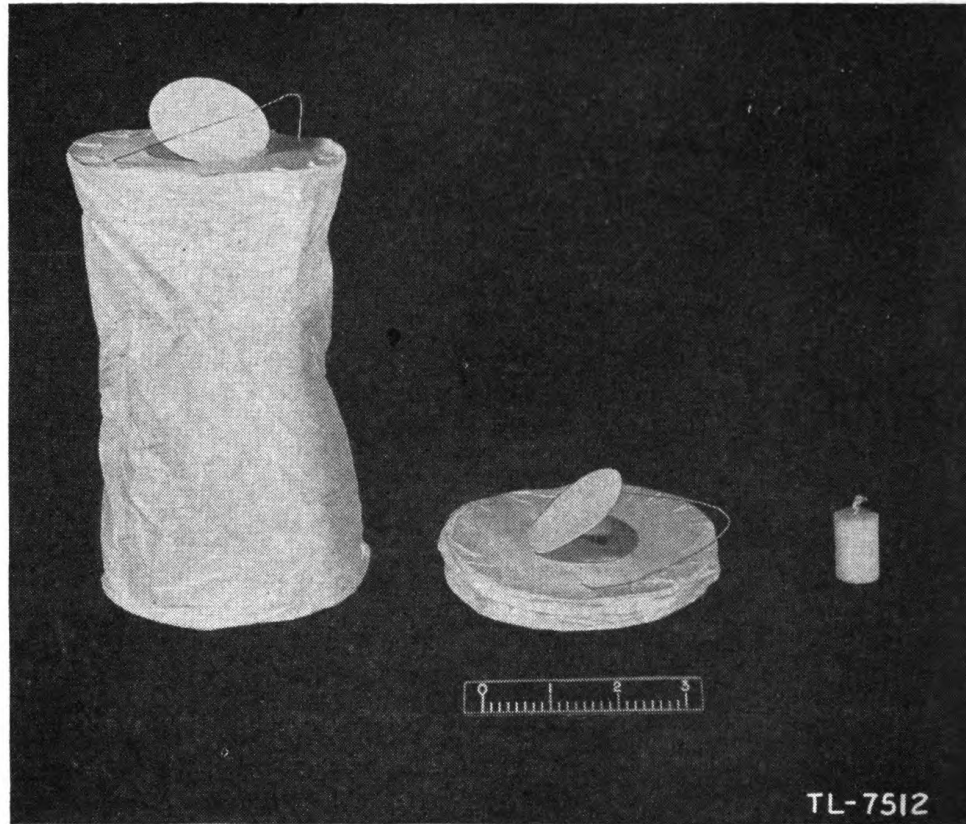

FIGURE 13. *Candle lantern light unit.*
(2) *Candle lantern set.* The candle lantern set consists of a paper lantern and a small candle packed separately. The lantern is packed flat (fig. 13).
(c) *Final steps.* Light the candle, and unfold the lantern (fig. 13) by twisting and separating the cardboard ends. Take care that the lantern walls do not catch fire. If there is a high wind, it may be